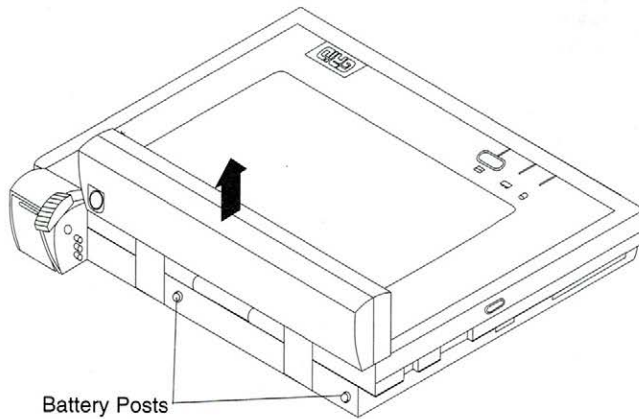
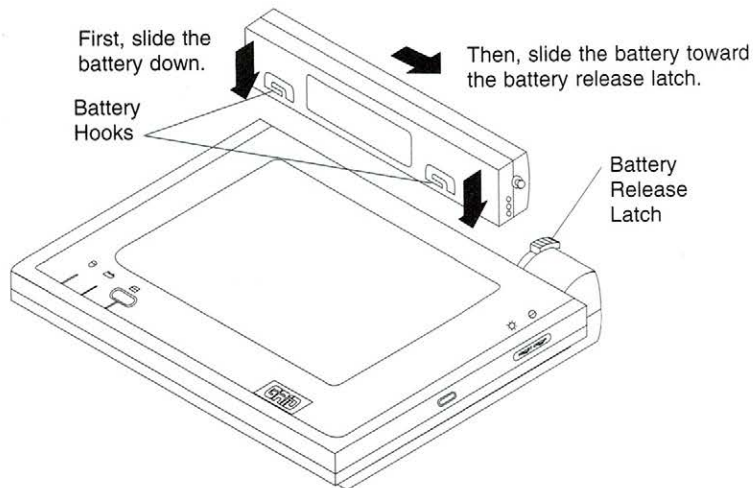

Figure 4-3. Removing the Battery Pack
Figure 4-4. Attaching the Battery Pack
4. Lift the battery straight up, as shown in Figure 4-3.
2. Put the battery hooks on the battery (Figure 4-4) onto the battery posts on the rear of the computer (Figure 4-3), and slide the battery down.